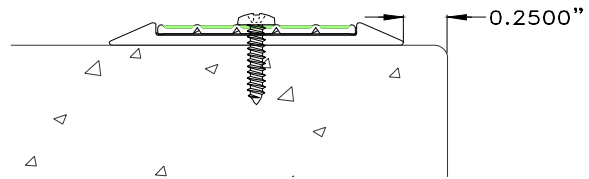

Figure 5
STEP 5. Place the nosing back into its installed position, aligning the anchor holes in the nosing with the anchor holes in the stair tread. Using the fasteners provided by the factory, attach the nosing to the stair tread (Figure 5).